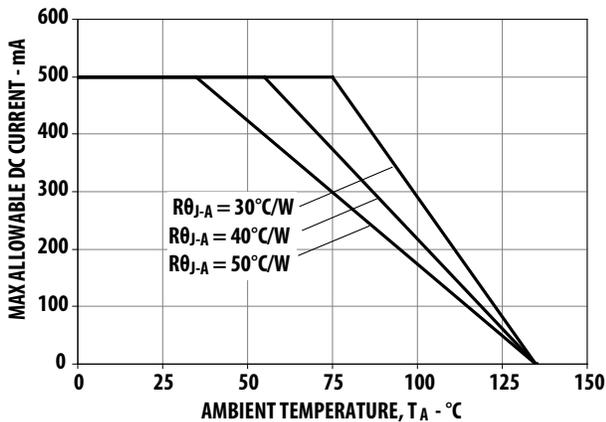

Figure 22. Maximum Forward Current vs. Ambient Temperature.
- Derate linearly based on Figure 10 for AlInGaP and Figure 22 for InGaN.